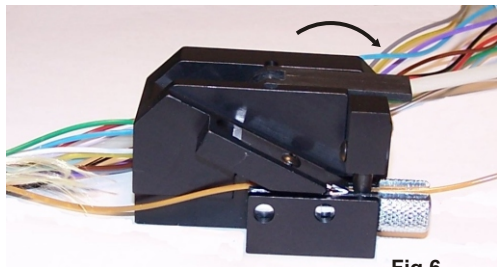

Fig.6
5. Rotate the locking lever to the right to lock the tool. Rotate the locking lever in a slow and deliberate motion. Avoid snapping it in place. (Fig.6)